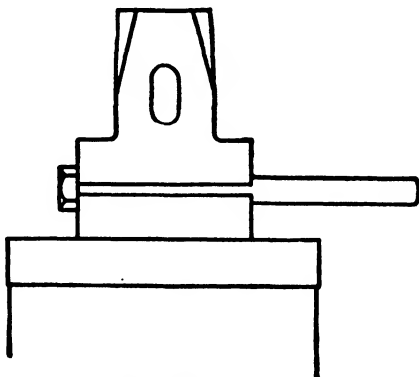

FIG. 37
4. Continue until the stock is of uniform shape and of the size required. Fig. 37.